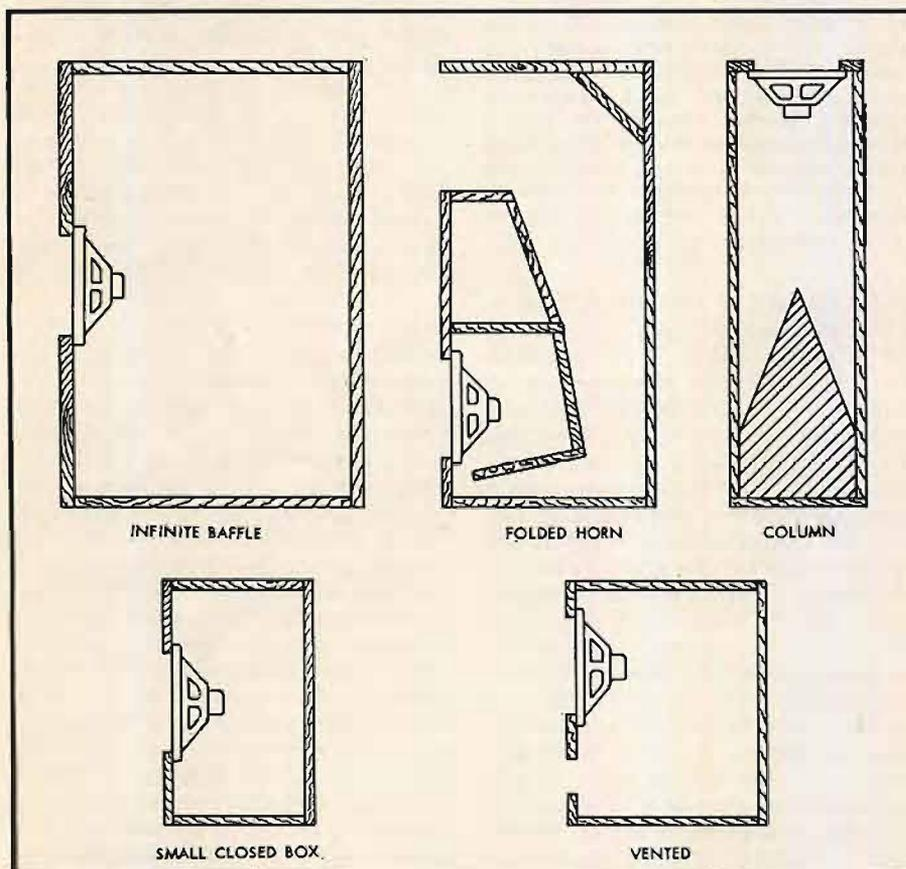
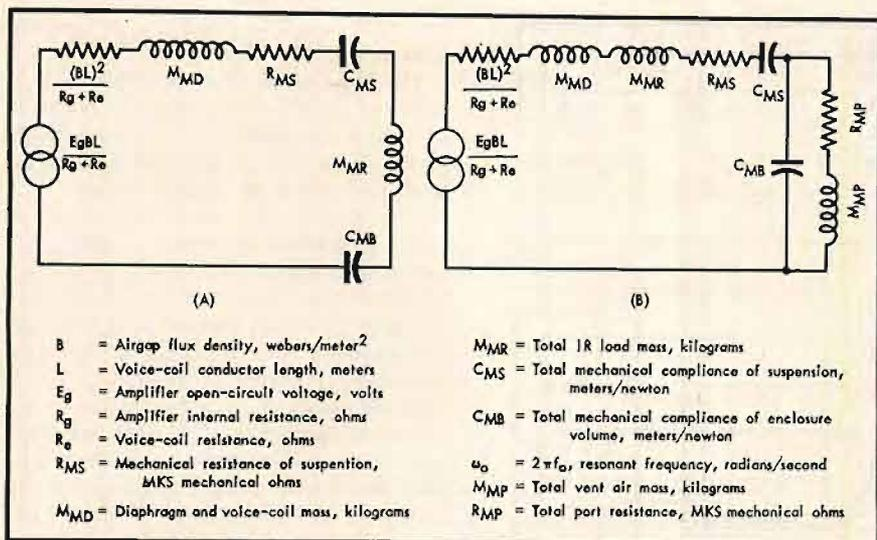

Fig. 1. Basic types of speaker enclosures.
Fig. 2. Mechanical equivalent circuits of direct radiator speakers in: (A), closed box, (B), in vented enclosure.
One of the principal factors leading to the choice of the 45/45 system as the R.I.A.A. Standard was the fact that in-phase information on the two channels could be made to appear as lateral modulation, making the system completely compatible with existing lateral monaural recordings. When two microphones are used with close spacing as they are in the X-Y system, *Fig. 1*, the dominant acoustical information is in-phase, particularly at the low frequencies. According to the R.I.A.A. Standards, this in-phase information should appear on the record as lateral modulation. In the M-S system of recording, *Fig. 2*, using vertical-lateral channels as opposed to 45/45, the output of the "M" micro-
*Fig. 1.* "X-Y" type of studio pick-up. Two figure-eight pattern microphones, such as ribbons, are used 90 deg. apart, each inclined 45 deg. to the sound source. The two outputs become the right and left modulations of the 45/45 stereo groove.
*Fig. 2.* "M-S" type of studio pick-up. As applied to vertical-lateral stereo disc recording, the M microphone feeds to the lateral channel, and the S microphone feeds the vertical channel. For 45/45 stereo disc recording, the two microphone outputs may be combined vectorially as  $M + S$  and  $M - S$ . In either case, the M microphone output appears as lateral modulation on the disc.
kinship or identity with enclosure systems described and analyzed long ago in such classics on acoustics as handbooks by Olson, Beranek and others. There has been no basically new type of enclosure in this decade, but much worthwhile effort has been devoted to refinement and improvements of existing basic types. There are few basic types of enclosures for the dynamic speaker. These are, as shown in Fig. 1:
The power radiated at low frequencies and the shape of the response curve are determined by the  $Q$  of the complete loudspeaker system, which includes the speaker, enclosure, and amplifier. (A) in Fig. 2 shows the low-frequency equivalent mechanical circuit of the complete closed-box system.